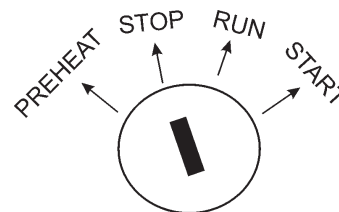

Figure 54. Ignition Switch 'STOP'
4. Turn the ignition key to 'STOP' (Figure 54).